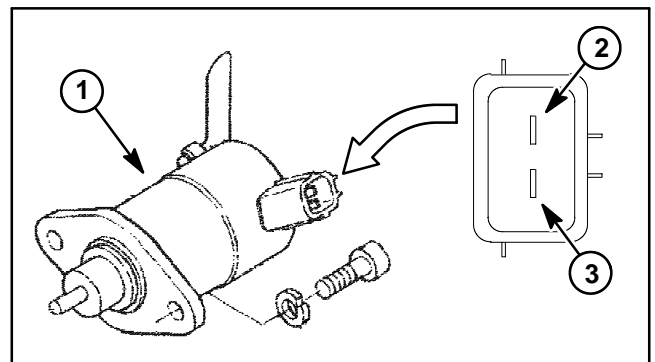

Figure 37
2. Using a digital multimeter, touch one test lead to the pull coil terminal and the other test lead to the fuel stop solenoid frame (ground) (Fig. 37). The resistance of the pull coil should be less than 1 ohm (but not zero).
3. Using a digital multimeter, touch one test lead to the hold coil terminal and the other test lead to the fuel stop solenoid frame (ground) (Fig. 37). The resistance of the hold coil should be approximately 15 ohms.
4. Touch a negative (-) test lead from the 12 VDC source to the fuel stop solenoid frame (ground) (Fig. 37). The solenoid should engage, making an audible "click," and the plunger should retract.